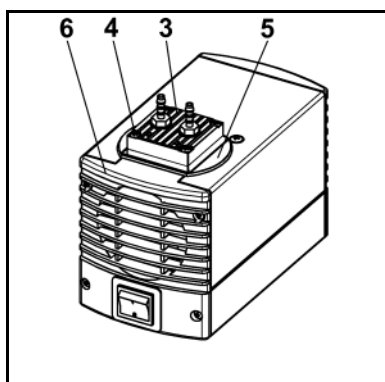
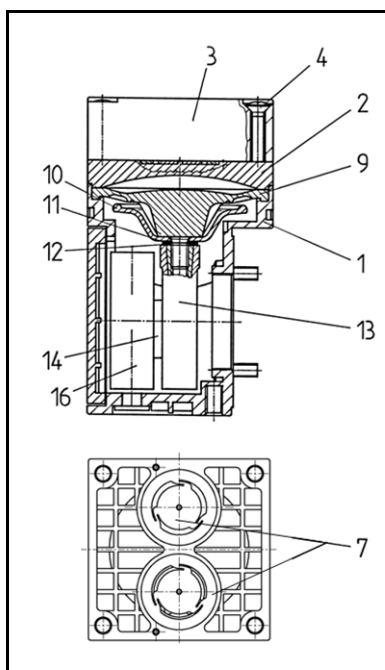

Fig. 4: Removing pump head
Fig. 5: Pump head
1. Mark the position of head plate (Fig. 4/3), cover (5) and cover plate (6) by a drawing line with a pencil. This helps to avoid incorrect assembly later.
2. Undo the 4 screws (4) in the head plate (3) and lift the head plate together with cover (5) off the pump housing.
3. Mark the position of intermediate plate (fig. 5/2) and housing (1) relative to each other by a drawing line with a pencil.
4. Lift intermediate plate (2) off the housing (1).
1. Using a small screwdriver, between the housing (Fig. 5/1) and the outer edge of the diaphragm (9), carefully lever the edge of the diaphragm lightly upwards.
2. Grip the diaphragm (9) on opposite sides, unscrew it about two turns (anti-clockwise).
3. Hold the pump with one hand, so that the head is pointing downwards. Turn the diaphragm (9) anti-clockwise to unscrew it.
4. Take the diaphragm support (10) and diaphragm spacer(s) (11) off the threaded portion of the diaphragm (9) and retain them.
6. Put the diaphragm support (10) and diaphragm spacer(s) (11), in that order, on the threaded portion of the new diaphragm (9).
7. Screw the new diaphragm (9) complete with diaphragm support (10) and diaphragm spacer(s) (11) into the connecting rod (clockwise) and tighten it by hand.
1. Remove the valve plates/sealings (fig. 5/7) from the intermediate plate (2).
2. Check that the valve seats, the head plate (3) and intermediate plate (2) are clean. If scratches or distortion are evident on these parts they should be replaced.
3. Lay the new valve plates/sealings (7) in the recesses in the intermediate plate (2). The valve plates/sealings for suction and pressure sides are identical, as are upper and lower sides of the valve plates/sealings.
4. Check that the valve plates/sealings (7) are not deformed by moving them gently sideways in their recesses.
1. Place the intermediate plate (2), with valve plates/sealings (7) on the housing, in the position indicated by the drawing line.
2. Place the head plate (3) with cover (fig. 4/5) on the housing (fig. 5/1), in the position indicated by the drawing line.
3. Check that the head plate (3) is centred by moving it gently sideways.
4. Tighten the screws (4), evenly and diagonally, first gently, then firmly.